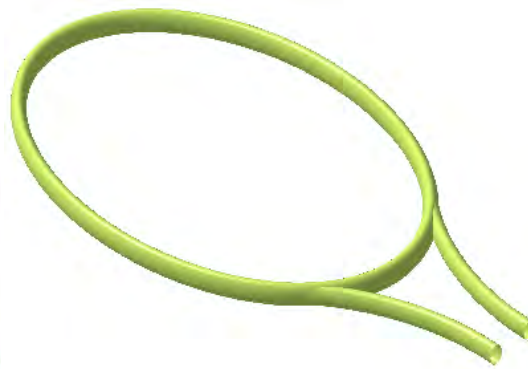

Figure 9-64 The model after creating the symmetry feature
- d. Create the symmetry of the second swept surface, refer to Figure 9-64.
7. Choose the **OK** button from the **Symmetry Definition** dialog box to complete the symmetric feature. Figure 9-64 shows the model with the symmetry feature.